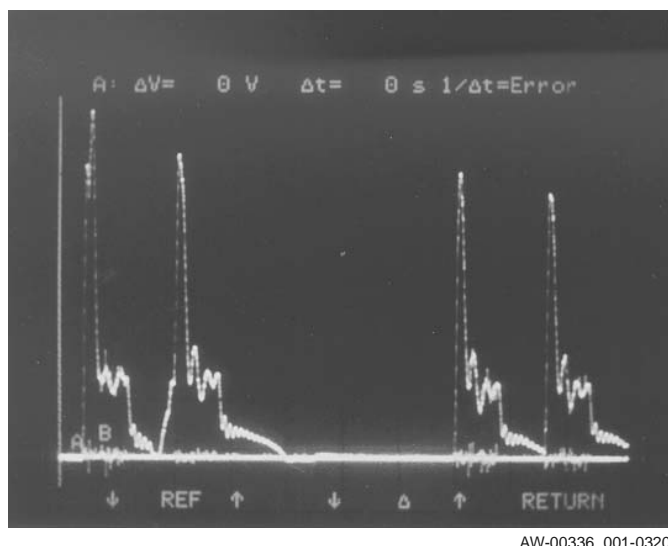
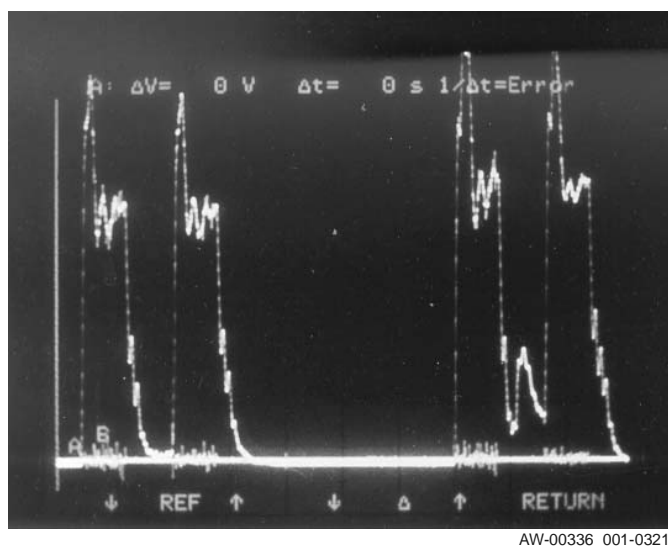

Figure 3-19. Tube Current Mode 1
Figure 3-20. Tube Current Mode 3
8. Observe the oscilloscope. You should see a trace similar to Figure 3-19, approximately 4ms pulses with a peak amplitude of 3V (ignore the overshoot and measure current on the back, after it settles out). This corresponds to 3ma \pm 35% tube current.
12. Observe the oscilloscope. You should see a trace similar to Figure 3-20, approximately 4ms pulses with a peak amplitude of 10V (ignore the overshoot and measure current on the back, after it settles out). This corresponds to $10\text{mA} \pm 35\%$ tube current.
If the scope trace seen is not as shown in either Figure 3-19 or Figure 3-20, the system may have insufficient AC power, a faulty X-ray Controller, or a defective Tank.